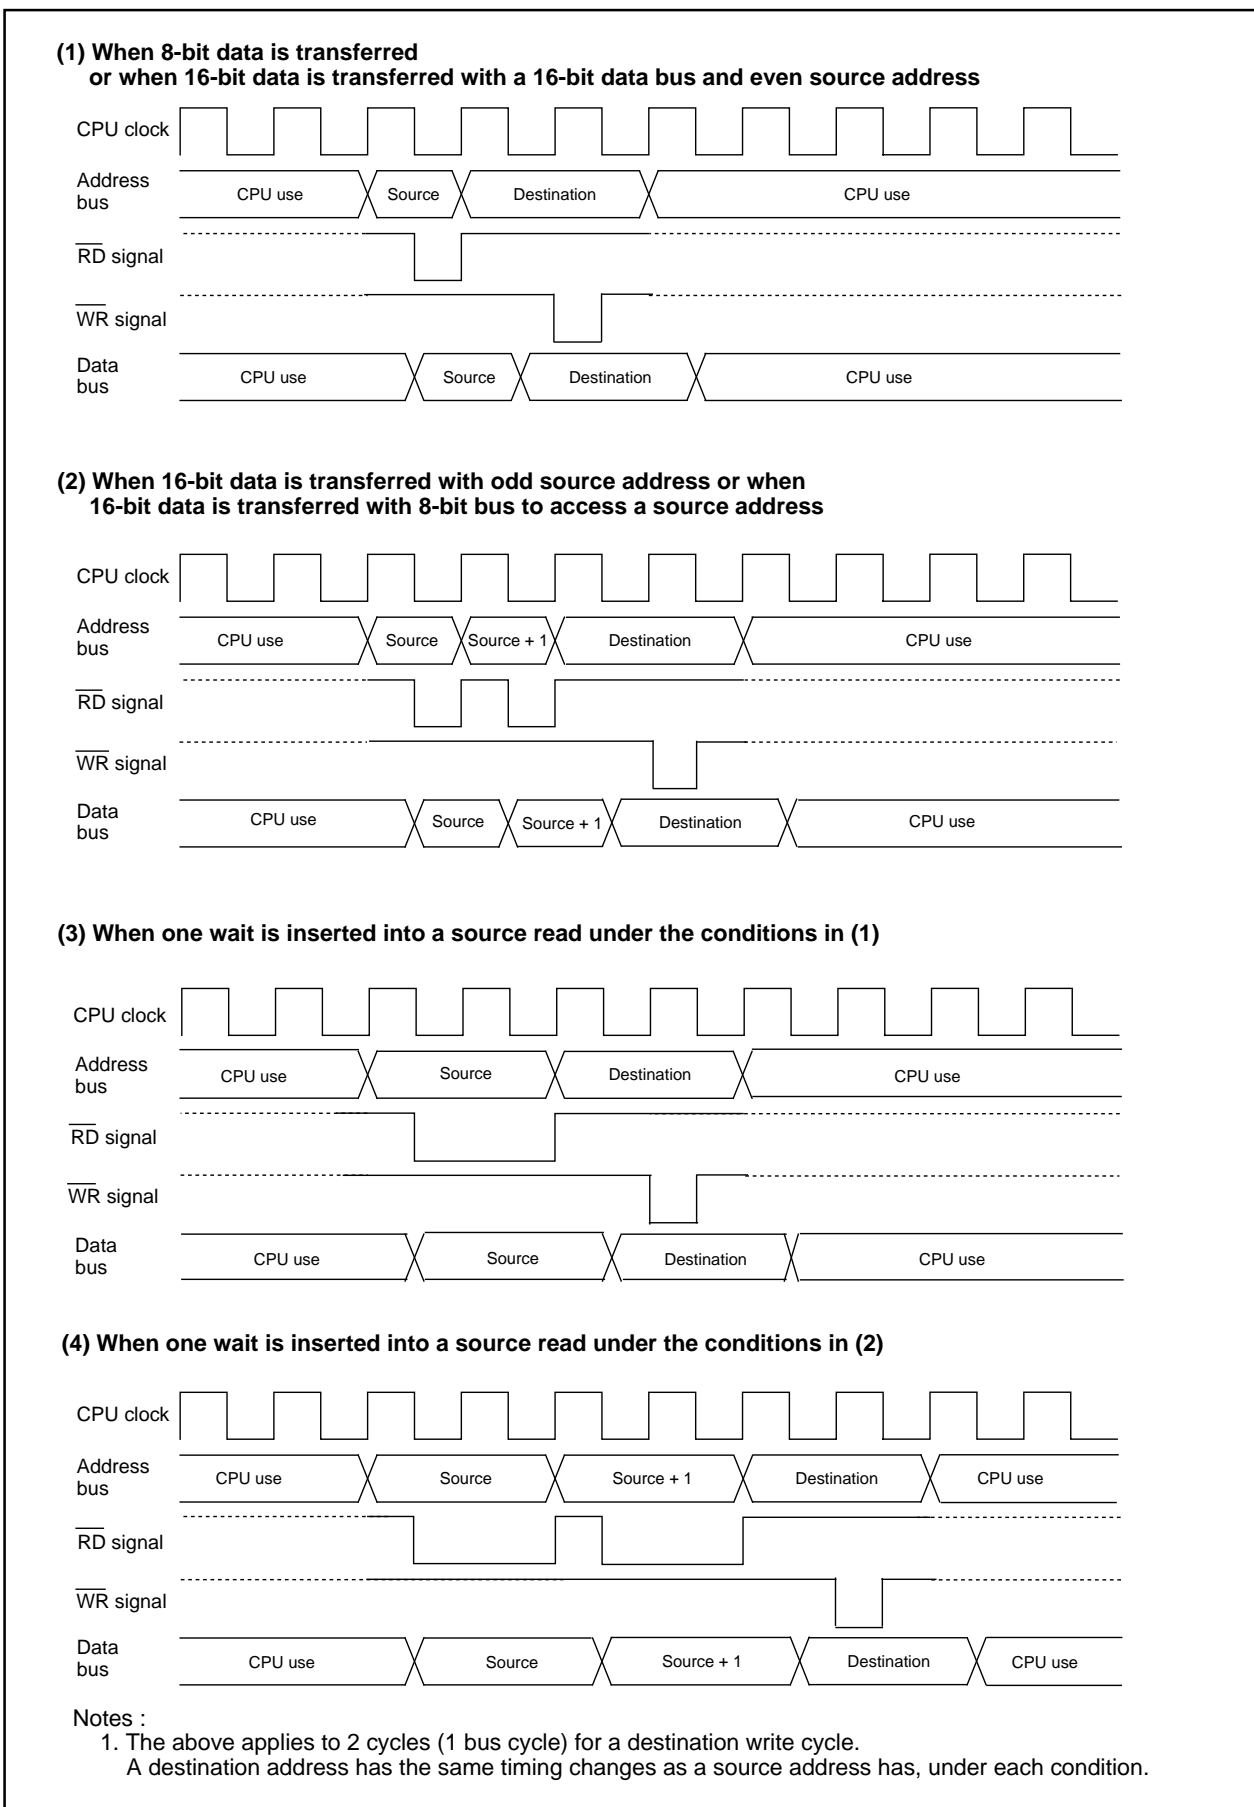

Figure 1.11.6. Transfer Cycles for Source Read
Figure 1.11.6 shows an example of a transfer cycle for a source read. In Figure 1.11.6, the number of source read cycles is illustrated with different conditions, provided that a destination address is in an external space with two bus cycles for a destination write cycle. Indeed, a destination write cycle is affected by each condition as well as a source read cycle and a transfer cycle changes accordingly. When calculating a transfer cycle, apply respective conditions to both destination write cycle and source read cycle. For example (2) in Figure 1.11.6, when an 8-bit data bus each to access both source address and destination address are used to transfer a 16-bit data, two bus cycles are each required as a source read cycle and destination write cycle.